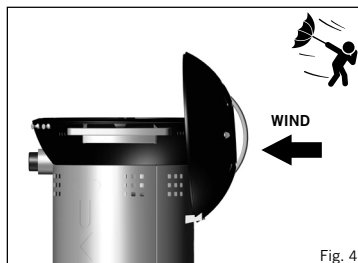

Fig. 4
- **NOTE!** If the appliance is used in windy conditions, the dome must be used as a wind shield, and placed in position as shown in Fig. 4.